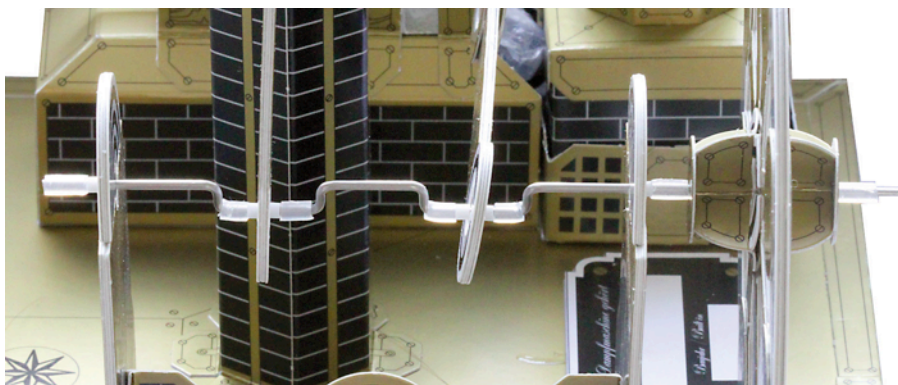

Fig 8: The crank shaft
Step 73: First slide a 5mm end stop from the short end of the shaft to the end of the first crank, then a 2mm spacer, followed by the bearing disc of the connecting rod, another 2mm spacer and finally another 5mm end stop (see Fig 8, left). Check that the bearing disk has a little play and adjust the end stops if needed.
Step 74: Slide a 5mm end stop from the long end of the shaft to the end of the other crank, then a spacer, one of the bearing discs of the valve rod, another spacer and finally the last 5mm end stop (see Fig 8, middle).